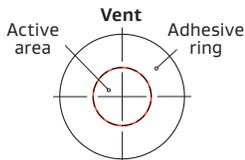

Figure 1: Active area of an Adhesive Vent
- Avoid direct contact with the active venting area (Figure 1) or adhesive ring